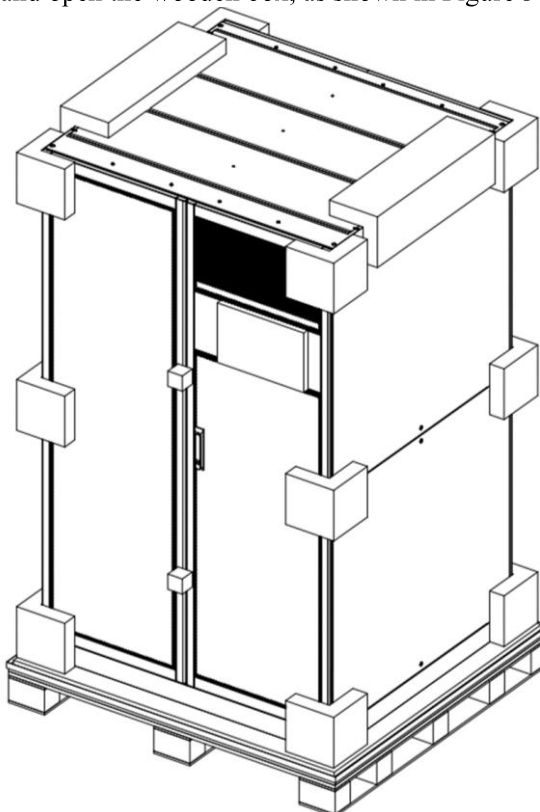

Figure 3-4 Disassemble the box
Step 3: Pry open the buckle and open the wooden box, as shown in Figure 3-4;